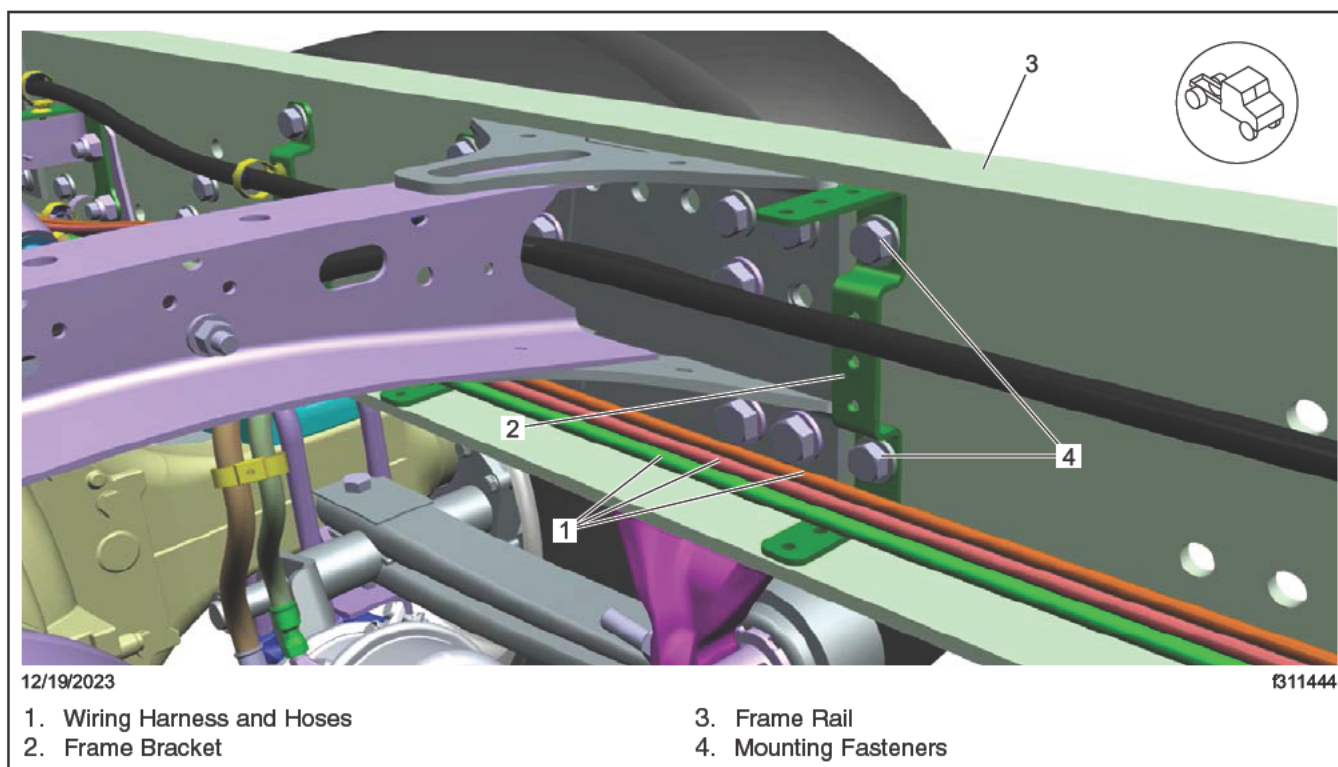
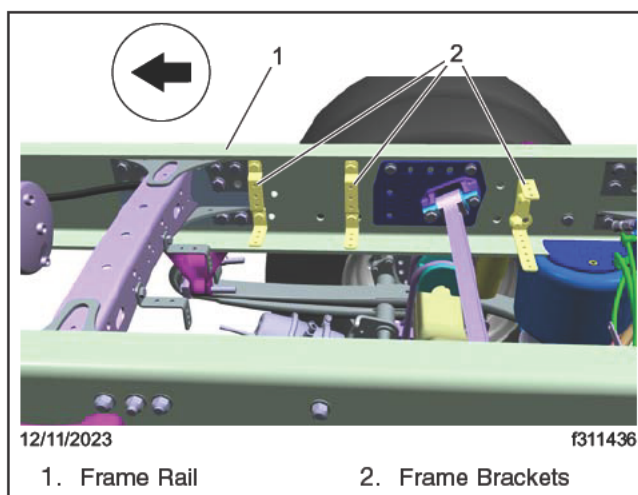

Fig. 13, Left-Hand Side Frame Brackets
Fig. 14, Right-Hand Side Frame Brackets
5. Drill three additional holes on the L-bracket before installing the crossmember using a mag drill. These holes are for the frame brackets in Fig. 13 and Fig. 14.